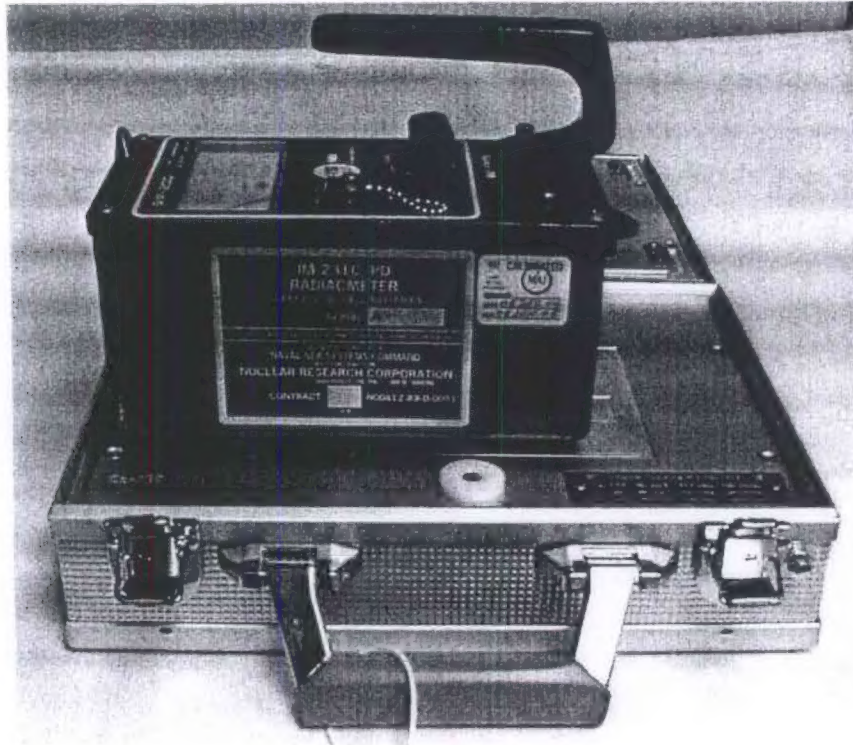

Figure 7. Configuration of IM-231()/PD during source check.
2.3. SOURCE RESPONSE CHECK FOR IM-231()/PD. Unlock and open the kit on a level surface in an area with low background radiation. There is no embossed area on the source housing plate for the IM-231()/PD. The intersection of the cross hairs on the instrument indicates the location of the center of the detector tube. Using the cross hairs as a guide place the IM-231()/PD over the Cs-137 radioactive source as shown (see Figure 7).